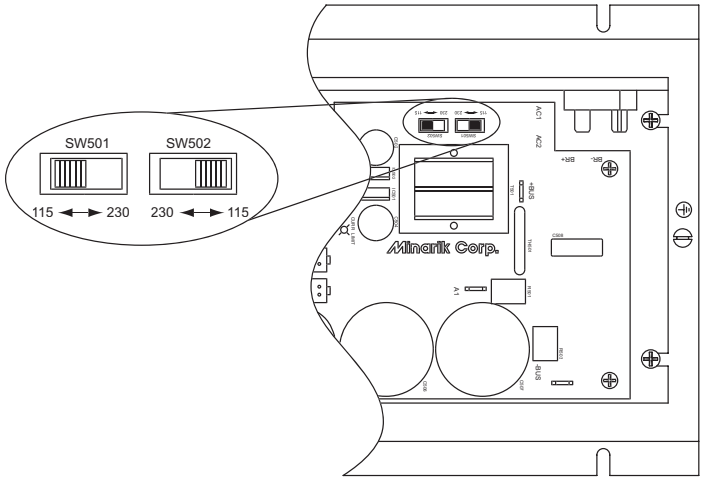

Figure 8. Voltage Selector Switches
- Set both voltage selection switches (SW501 and SW502) to either 115 or 230 to match the AC line voltage being used. See Figure 8 (page 16).